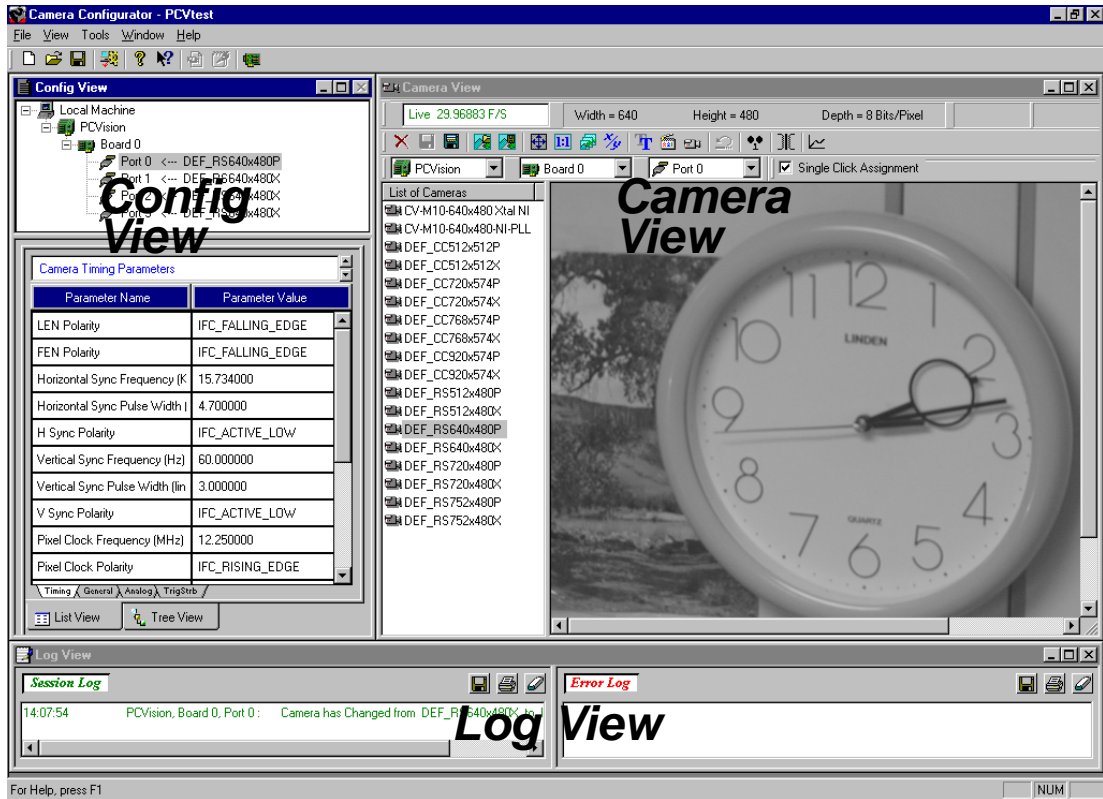

Figure 5. Configurator Startup Screen
2. Now you should see the screen shown in Figure 5, the Configurator window, with an Image Display window inside.